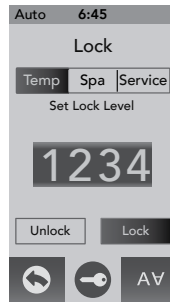

Figure 12.10b
From the Settings Menu, tap **Lock...** to enter the programming options, Figure 12.10b. You can prevent users from changing certain features of the spa. When a lock feature is active, the lock icon  will appear on the Main Menu.
A. **Temp Lock (Figure 12.10b):**
B. **Spa Lock (Figure 12.10b):**
C. Service Lock (Figure 12.10b):